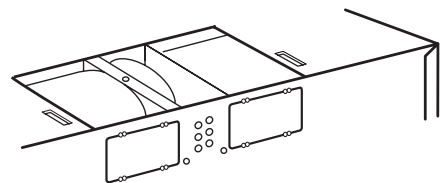

Figure 24
5. Place blower unit back into microwave oven. Be sure the wires are not pinched. See Figure 24.